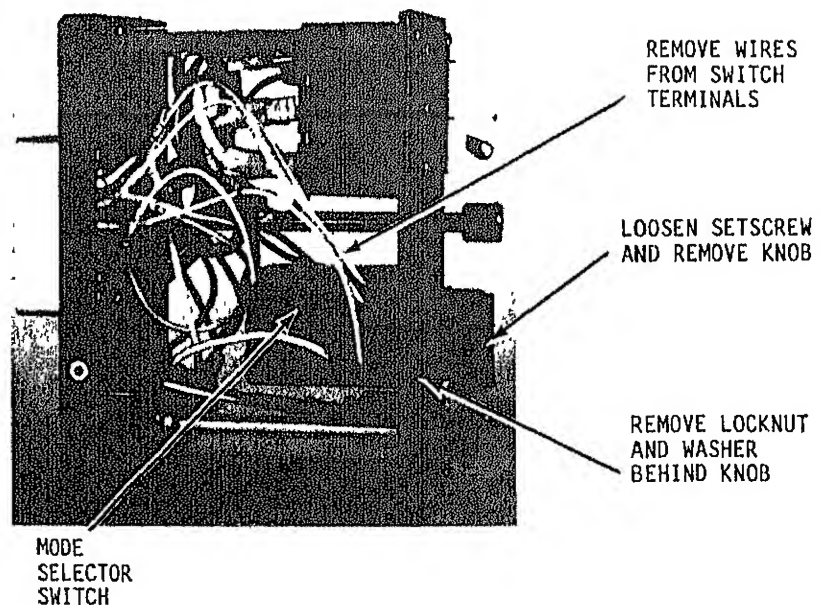

Figure 4-12. Mode selector switch removal and installation
(11) Refer to figure 4-12 and remove the mode selector switch.
(1) Refer to figure 4-12 and install the selector switch.